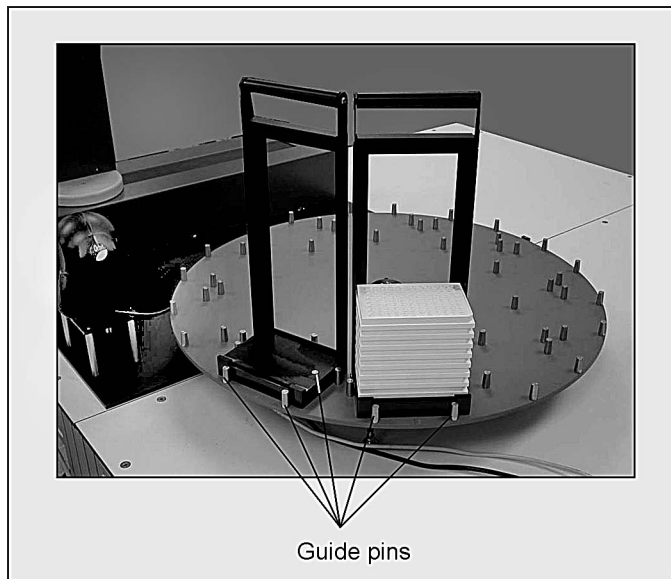

Figure 23: Landscape stackers
2. Rest the stacker on the platter (figure 23).